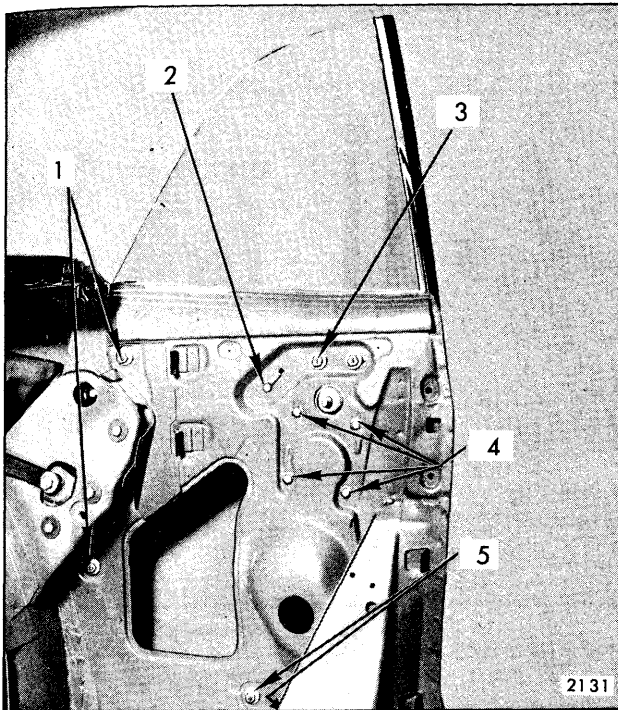

Fig. 8-52—Rear Quarter Hardware - "A-67" Style
2. On "A, X & Z" styles, remove front guide upper and lower adjusting stud nuts (refer to Figs. 8-52 and 8-51). These illustrations are for "A" bodies but are indicative of all styles).